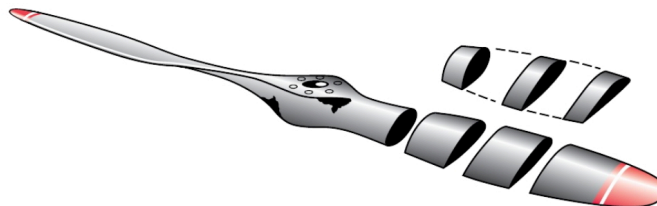

Figure 7: The cross sections of the propeller.
12. **Propeller:** It converts rotational power into thrust, propelling the aircraft through the air. There are two types of propellers: **fixed-pitch** and **variable-pitch**. Figure 7 shows a general view of the propeller, where the section near the center uses a low-speed airfoil, and the section near the tip uses a high-speed airfoil due to the higher speed.